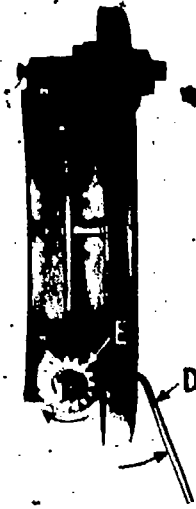

Fig 2-55. Brake adjusting wheel.
(3) Adjusting brakes.
- (c) A cam adjusting bolt or an adjusting wheel (fig 2-55), which can be reached through a hole in the backing plate, will permit you to move one end of the enclosed brake shoes. This adjusting device is usually located at either the top or bottom of the backing plate. Turning the adjusting device in one direction will move the brake shoes toward the drum to compensate for lining wear. Turning the adjusting device in the other direction will move the shoes away from the drum. Proper adjustment is usually specified as so many thousandths of an inch clearance between the lining and the drum, or backing off the adjusting wheel a certain number of clicks after it has been turned all the way in against the drum. When the wheel is jacked up, you can tell by spinning it whether the brake is free or dragging.